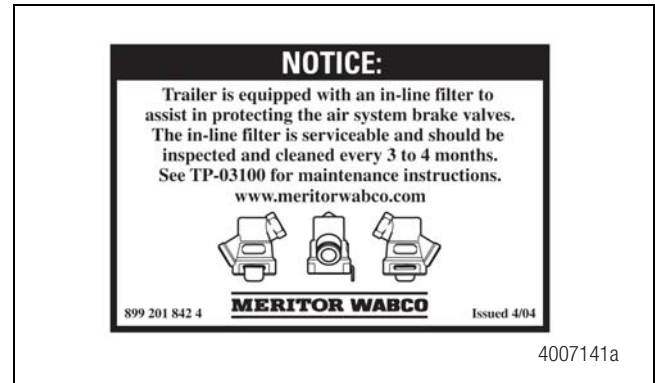

Figure 32
3. Affix the in-line filter label (part number 899 201 842 4) to the front of the trailer near the control (blue) gladhand. Figure 32.